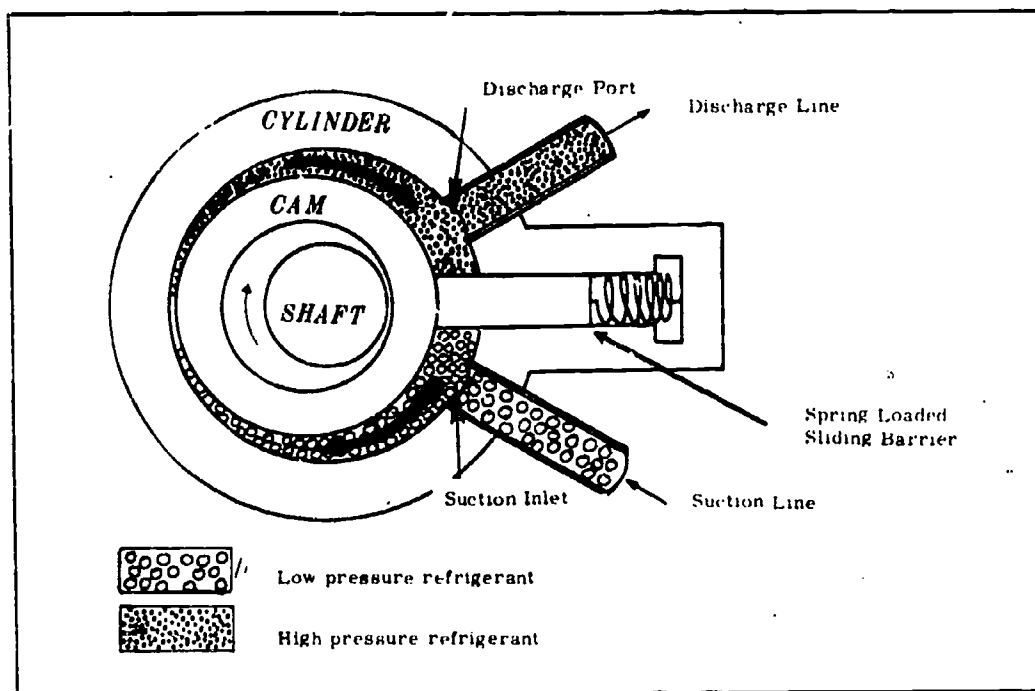
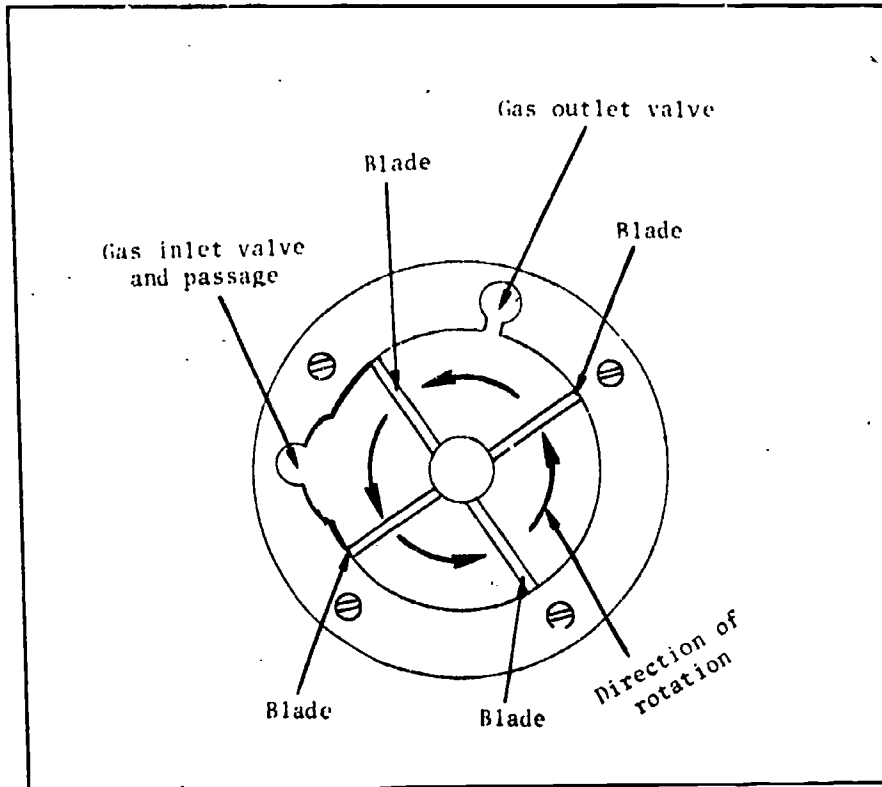

Fig 2-2. Schematic of rotary compressor, stationary-blade.
Fig 2-3. Schematic of rotating-blade compressor.
c. **Rotary compressor.** This type compressor is used in many small-tonnage units to convert low-pressure, low-temperature refrigerant vapor to high-pressure, high-temperature vapor. These compressors are simplicity itself in that they have very few moving parts. There are two types of rotary compressors--stationary-blade and rotating-blade. In the stationary-blade type (fig 2-2), an eccentric is mounted on the shaft or the shaft itself is cammed (enlarged on one side) so that it rides constantly around the outer wall of the cylinder or chamber. A spring-loaded blade is mounted in the wall of the cylinder or chamber so that it separates the intake and outlet ports or valves, and maintains a constant pressure on the eccentric or shaft. As the eccentric, or the cammed surface revolves within the cylinder, the low-pressure vapor enters the cylinder, is carried around the cylinder while being compressed, and is finally forced out the outlet port. The blade keeps the compressed vapor from escaping to the intake side of the compressor. In the rotating-blade compressor (fig 2-3), the blades are mounted on the shaft (which is mounted eccentrically in the cylinder) and rotate with it. The low-pressure gas enters the cylinder through the inlet valve, and is trapped between the blades, and is compressed while it travels around the cylinder. The gas escapes through the outlet valve as the blades pass by it. It is kept from escaping back to the inlet side by the extremely close clearance between the blades and the cylinder walls, and the presence of lubricating oil which causes a pressure-tight seal.